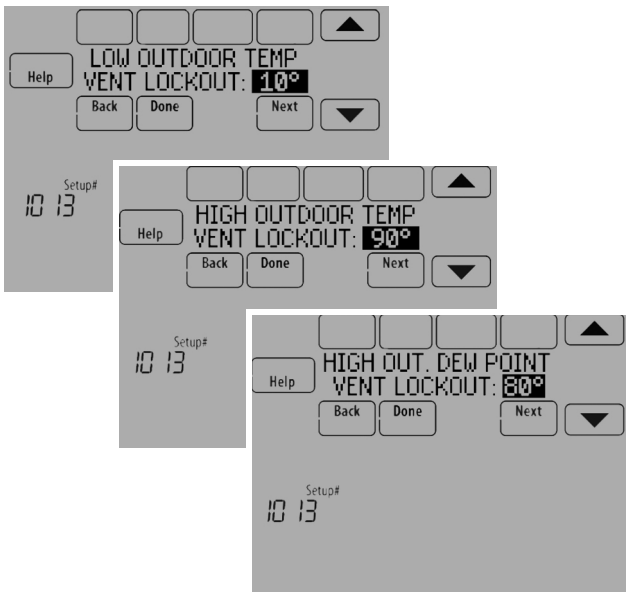

Fig. 234.
- 9. Select the Outdoor Condition Lockouts. See Fig. 234. See "Ventilation — Outdoor Condition Lockouts (ISU 1013)" on page 91 for more information.